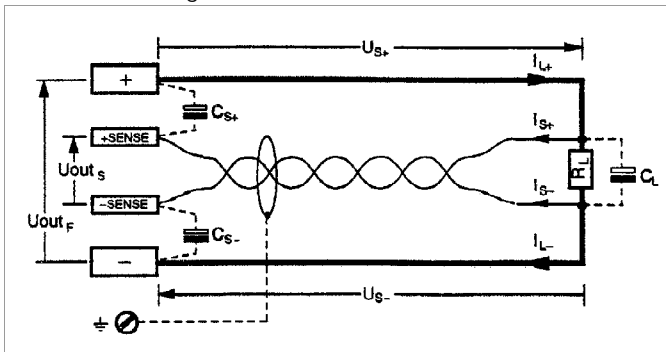

Figure 5.2 Connecting the Power Consumer for Sensing Mode Operation
- The **parameters** and **limit values** included in figure in **figure 5.2** and in the section entitled **Electrical Data** apply for operation with the sensing leads.
- Control fluctuations can be counteracted with one capacitor each (C_{S+} , C_{S-}) between the **SENSE** and **output terminals** (see Figure 5.2). If the **output leads are twisted**, their impedance can be reduced as well.